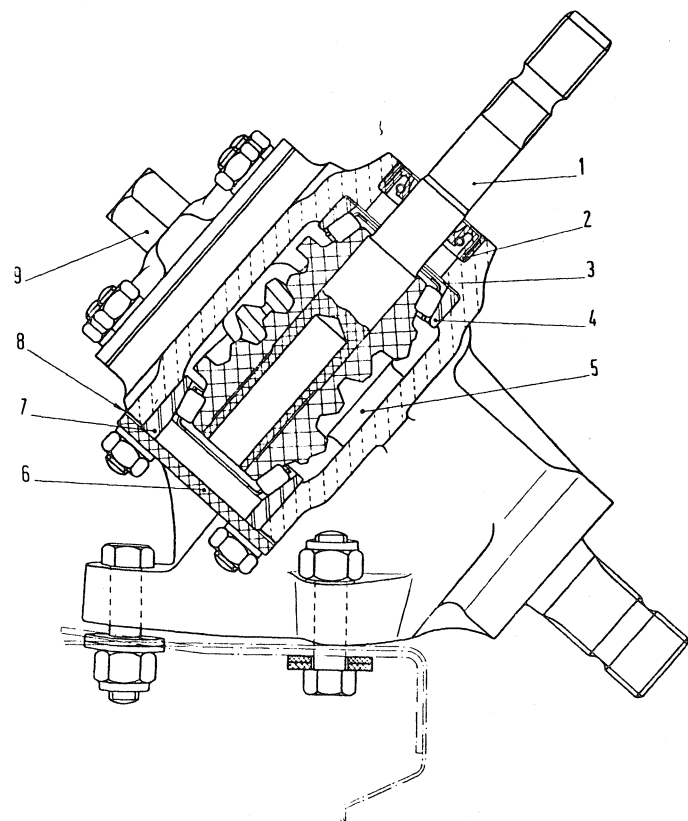
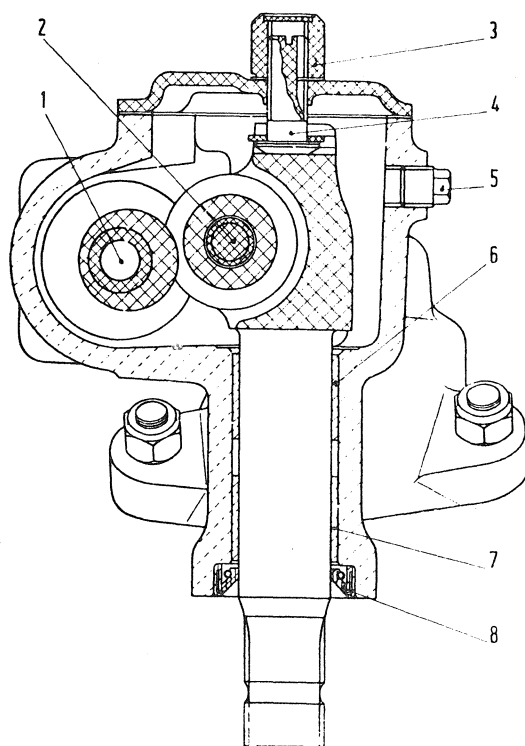

Fig. 339 - Steering box section through worm screw.
Fig. 341 - Steering box section through steering shaft.
Remove nut (3, fig. 341) and then the upper cover, turn in the adjustment screw (4, fig. 341) and remove the worm roller shaft adjustment plate.
Take off the front thrust cover (6, fig. 339) and the worm screw roller bearing shims (8).
Pull out roller shaft (5, fig. 339) and push down worm screw (1): this will push out lower roller bearing and the upper roller bearing inner ring.
Remove worm screw oil seal (2, fig. 339) and roller shaft oil seal (8, fig. 341).
Fit puller A. 46004 and remove the outer ring of the worm screw upper bearing (4, fig. 339) together with its adjuster shims (3) located between the bearing and the box.
If roller shaft bushes (6 and 7, fig. 341) are excessively worn, replace them using replacer A. 66009.
Check clearance between eccentric bushes (6 and 7, fig. 341) and roller shaft. Maximum allowable clearance is .0039" (0,10 mm).
Check worm screw-to-roller backlash: turn in screw (4, fig. 341) until all backlash is taken-up.
After this, screw in and tighten nut (3, fig. 341) to lock adjustment screw in position.